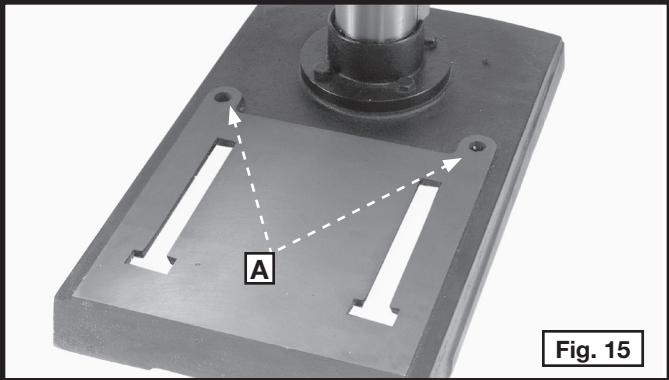

Fig. 15
If the machine has any tendency to tip over, slide, or walk on the supporting surface, you must secure the machine base to the supporting surface with an M8x1.25 x 125mm carriage head screw, 8.5mm flat washer, 8.5mm lock washer, M8x1.25 hex nut through each of the two holes (A) Fig. 15.